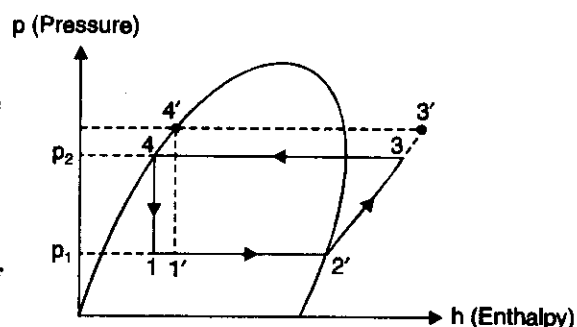

Fig. 14.16. Effect of increase in delivery pressure
2. **Effect of delivery pressure.** Fig. 14.16 shows the effect of *increase* in delivery pressure.